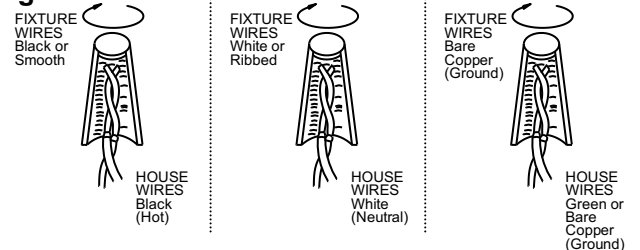

Fig. 3
8. Align the fixture backplate(G) to mounting plate (C) and secure with cap nuts (F).
9. Install (1) one candelabra base bulb (E) for 78401-886 or (2) two candelabra base bulbs for 78402-886 up to 60 watts or CFL or LED equivalent (not included) in accordance with the fixture specification. **(DO NOT EXCEED THE SPECIFIED WATTAGE!) (NE PAS DEPASSER LA PUISSANCE NOMINALE MAXIMALE!).**
10. Secure the frame(J) back to backplate(G) by screws(L) & washers(K).
11. To prevent moisture from entering the outlet box (A) and causing a short, use clear caulking (i.e. Indoor/Outdoor Silicone Sealant) to outline the outside of fixture back plate where it meets the wall leaving a space at bottom to allow moisture a means to escape. (Fig. 3)